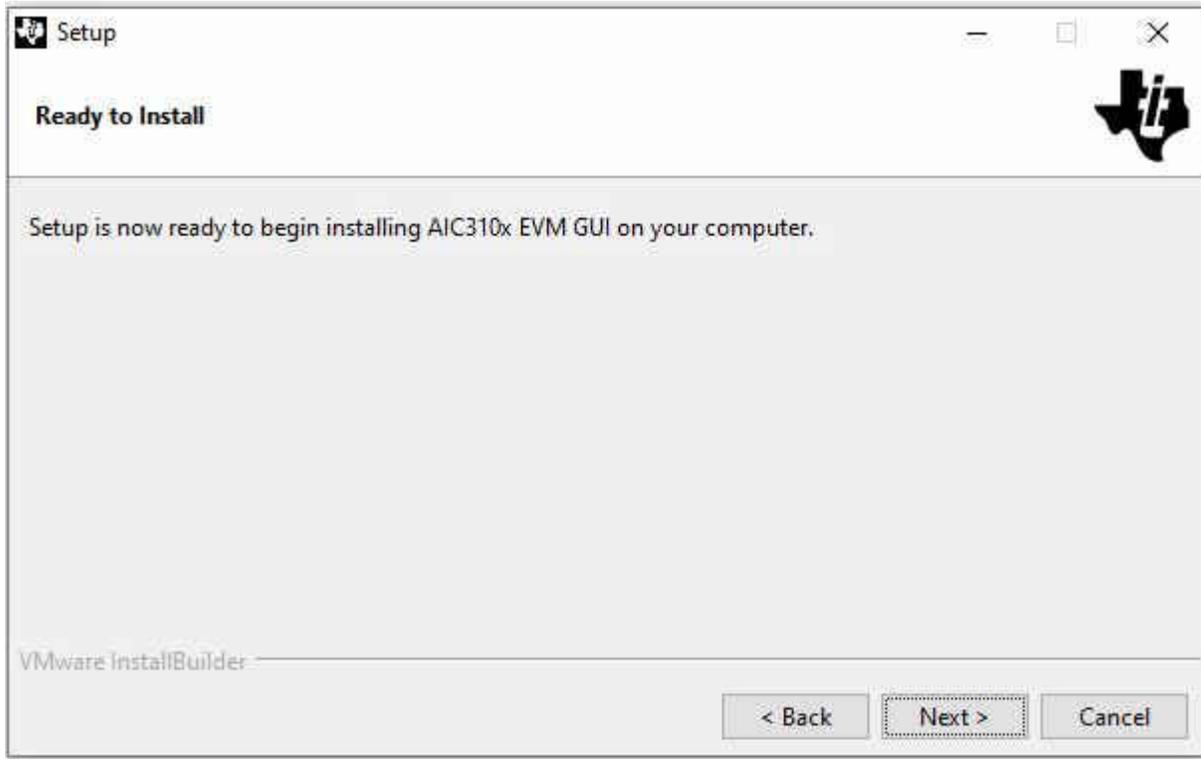

Figure 1-2. Ready to Install
5. The setup is now ready to begin installing. A window similar to Figure 1-2 should appear. Click next to proceed.